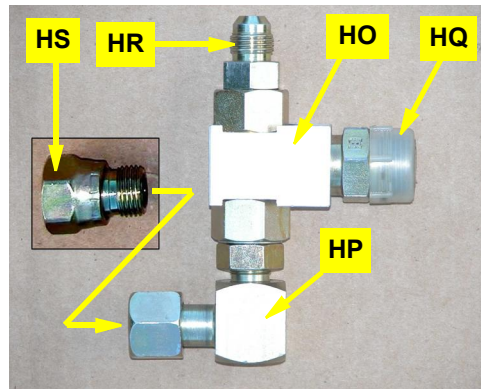

Figure 8a: Assembled load sense shuttle
- a. Assemble the load sense shuttle **HO** with the included fittings **HP**, **HQ**, and **HR** (Figure 8a).